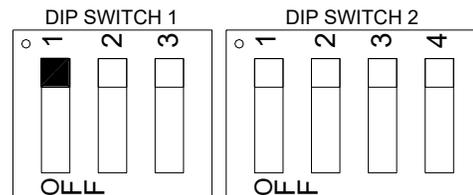

Figure 4
- NPN or PNP input signal is selected by DIP switch #1-1 (Figure 4)